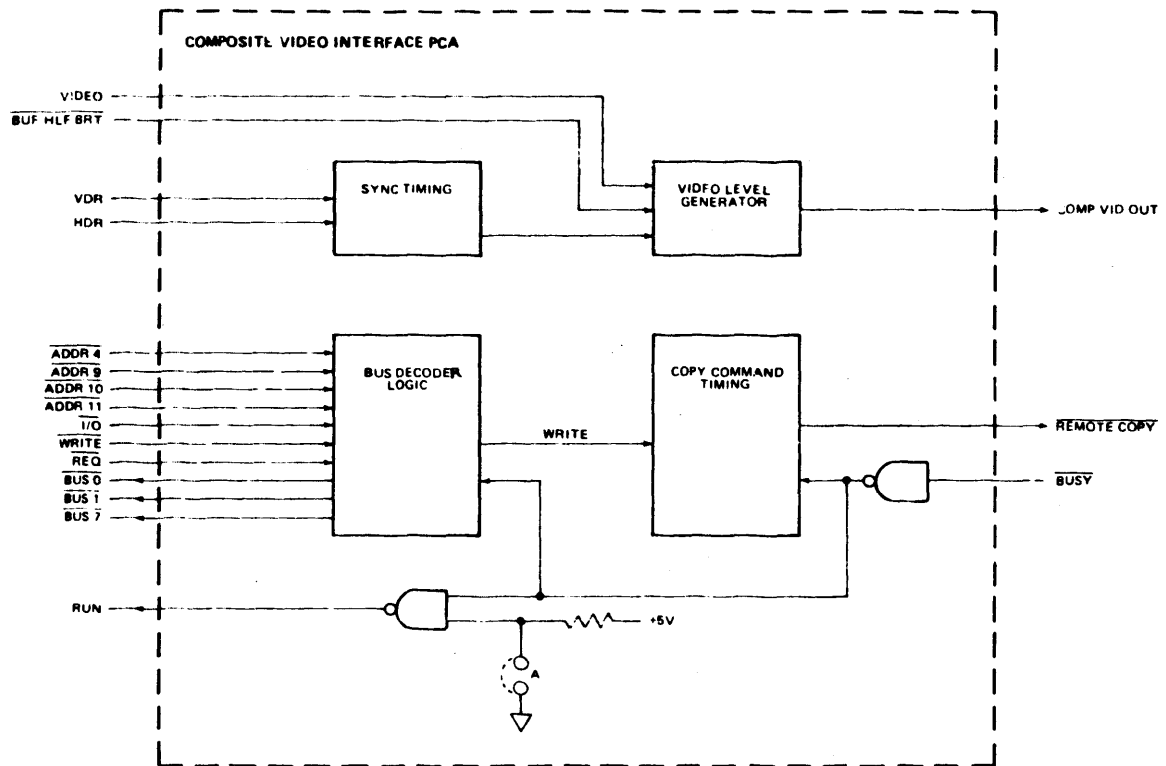
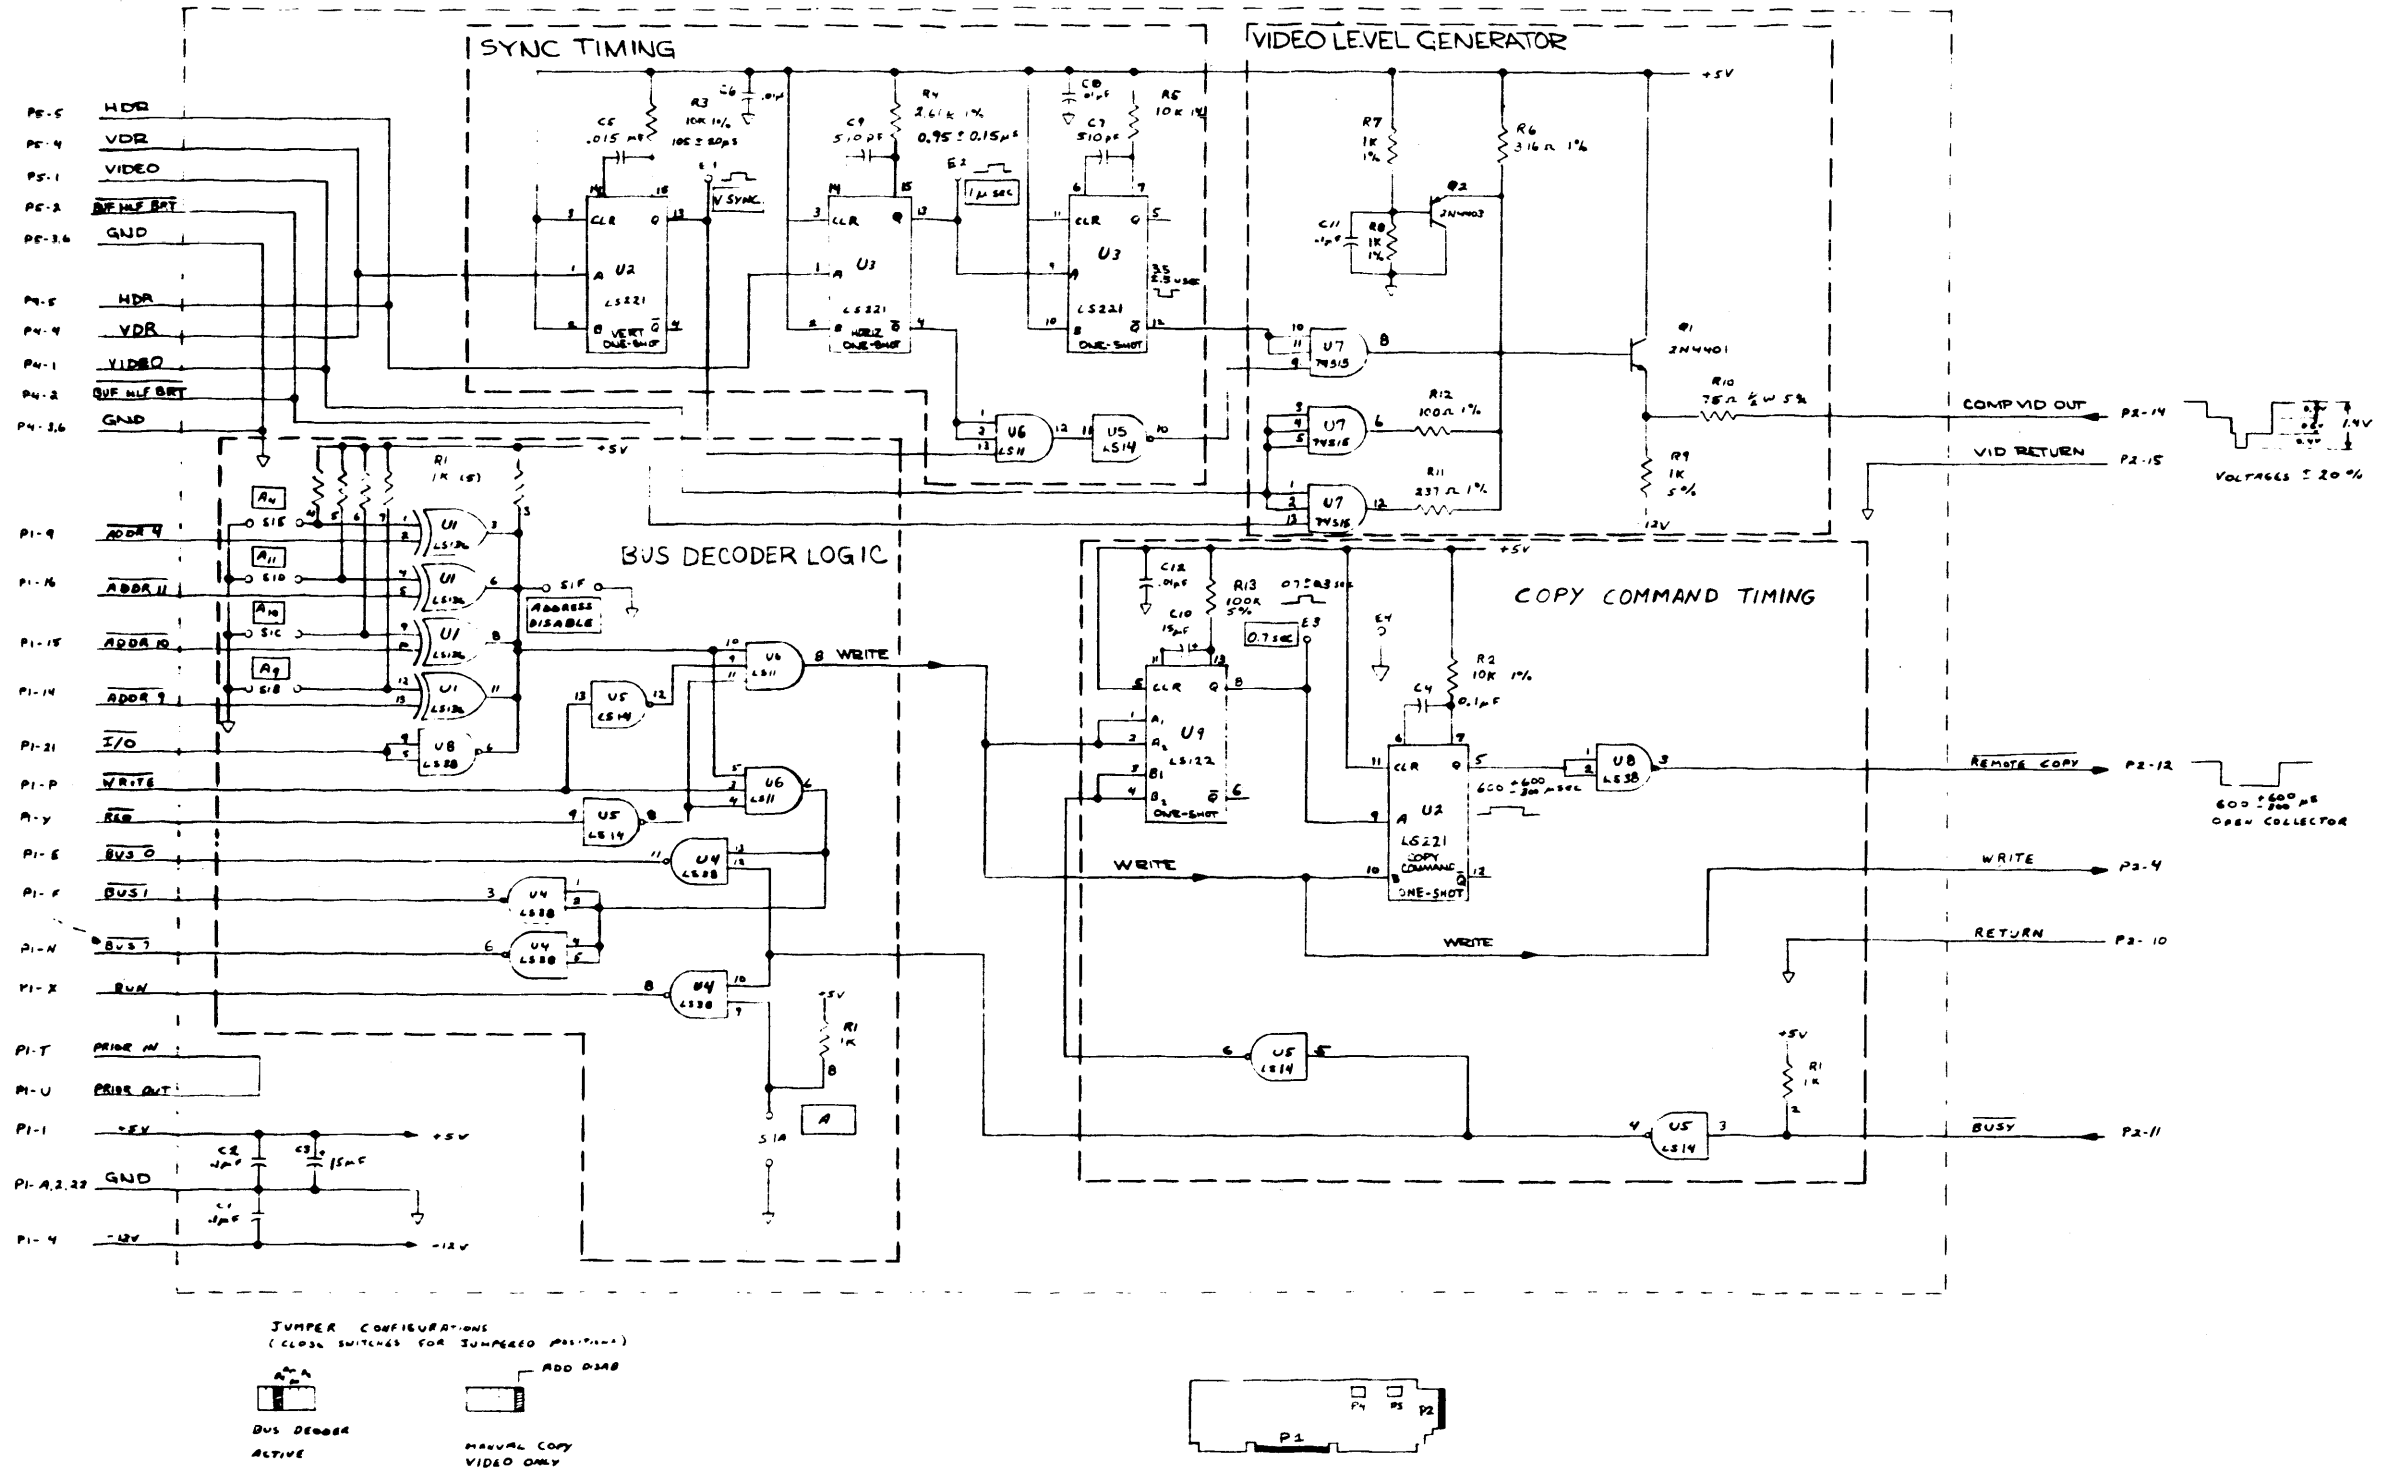
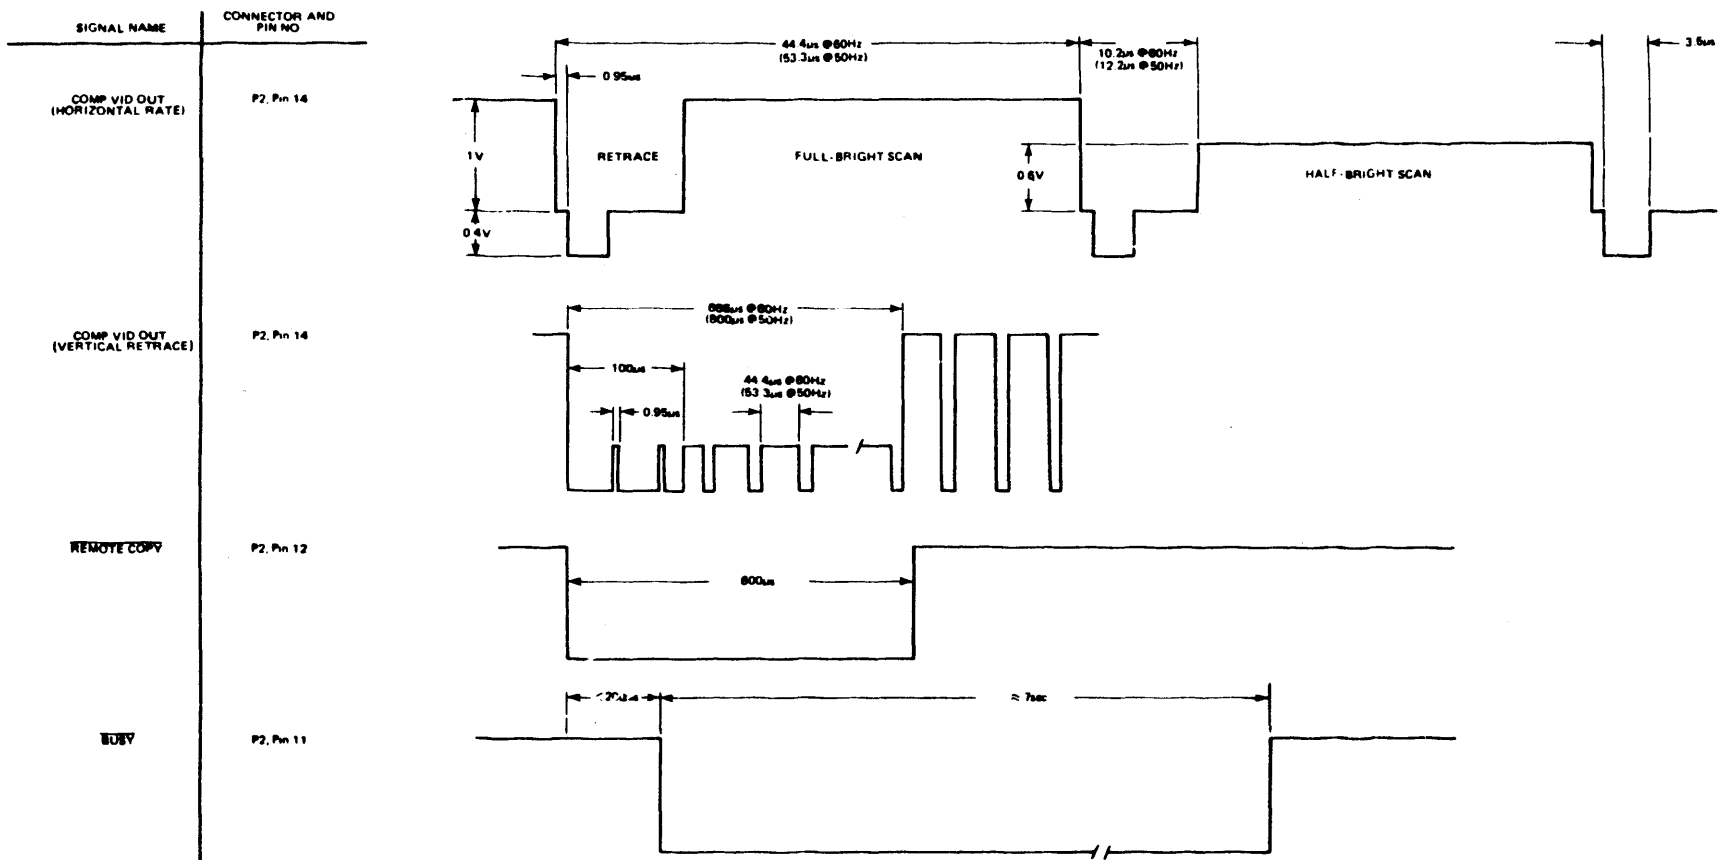
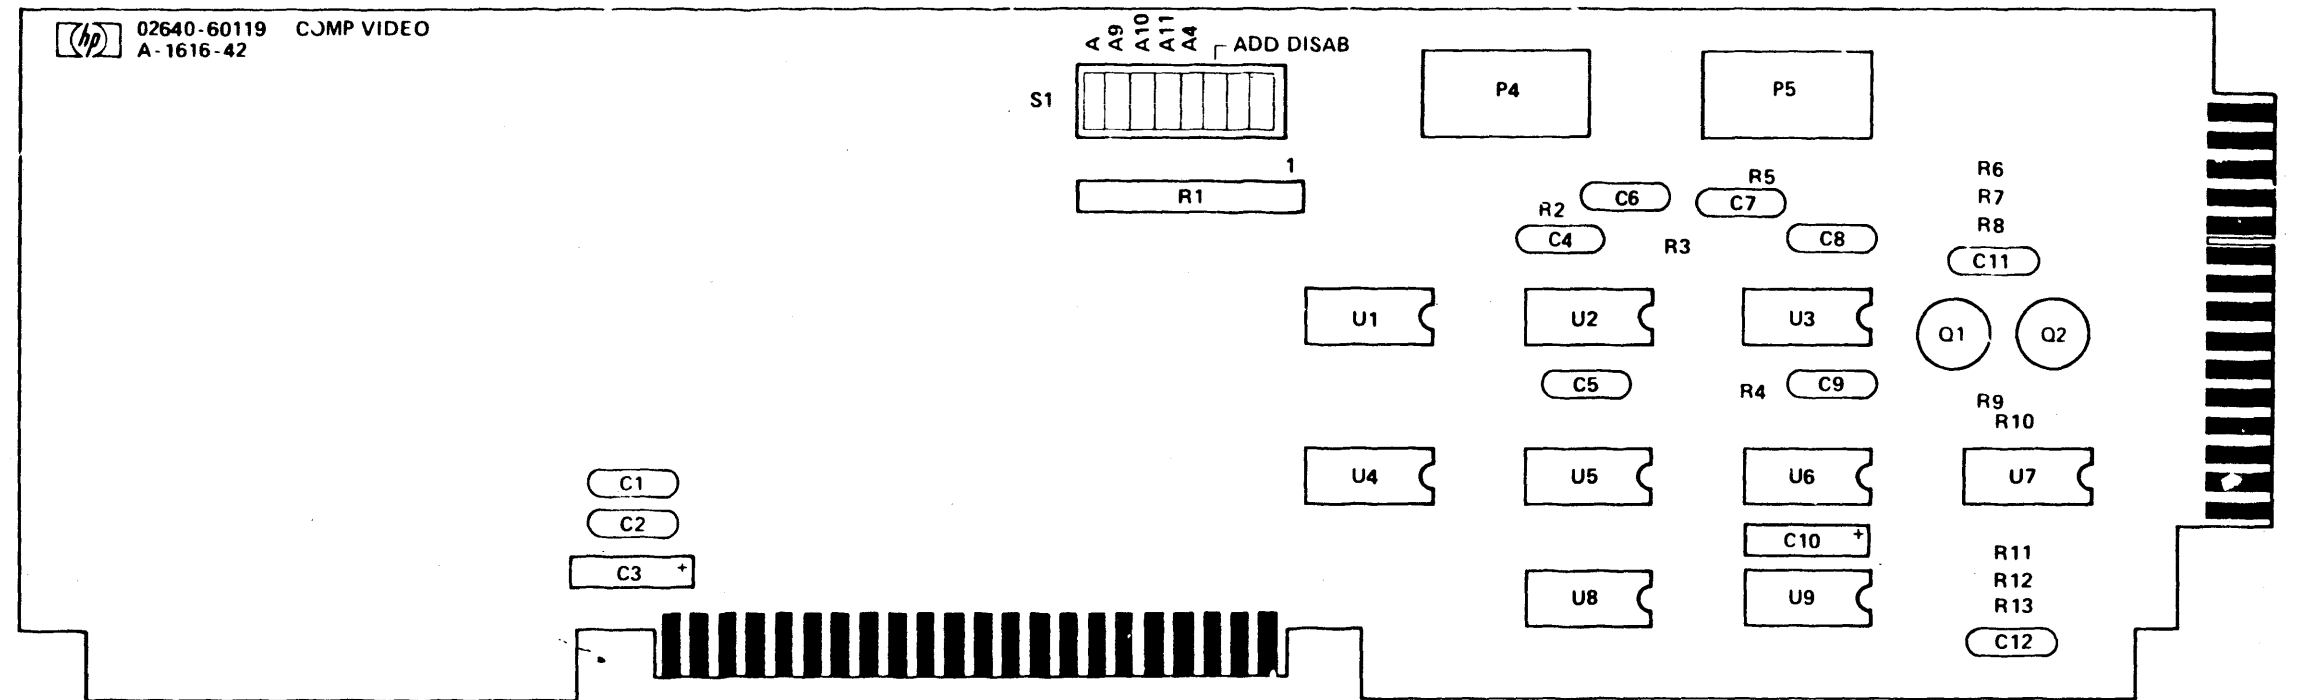

Figure 1
Figure 2
Figure 3
Figure 4
3.0 FUNCTIONAL DESCRIPTION. Refer to the block diagram (figure 1), schematic diagram (figure 2), timing diagram (figure 3), component location diagram (figure 4), and parts lists (02640-60119) located in the appendix.
Pin 12 and the \bar{Q} output (U3, Pin 4) is gated with the Vertical Sync pulse to "serrate" it. These serrations keep the horizontal oscillator in the monitor synchronized during the vertical sync interval. The output timing to the sync timing block is shown as the time dimensions on the composite video portion of the timing diagram figure 3.